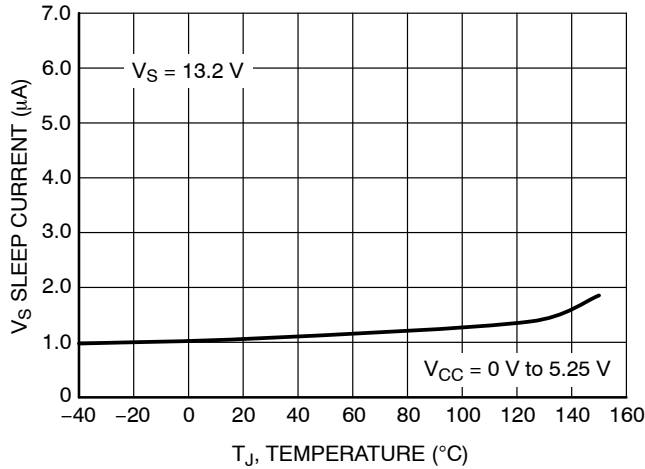

Figure 6. V_S Sleep Supply Current vs. Temperature
5. For temperatures above 85°C , refer to Figure 6.
- For temperatures above 85°C , refer to Figure 6.